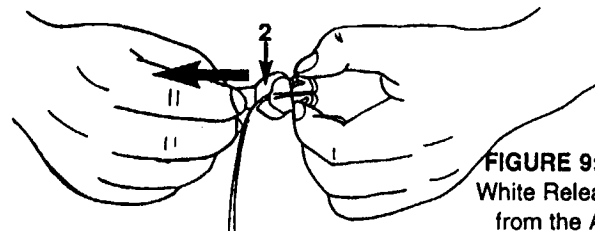

FIGURE 9: Remove the White Release Paper (2) from the Adhesive Pad
- Step 8. Hold the Sensor Assembly against the skin by grasping it between the thumb and forefinger. With the other hand, remove the White Release Paper (2) by pulling on the tab which extends out from under the Cable. Press the Adhesive Pad against the skin until it adheres (Figure 9).